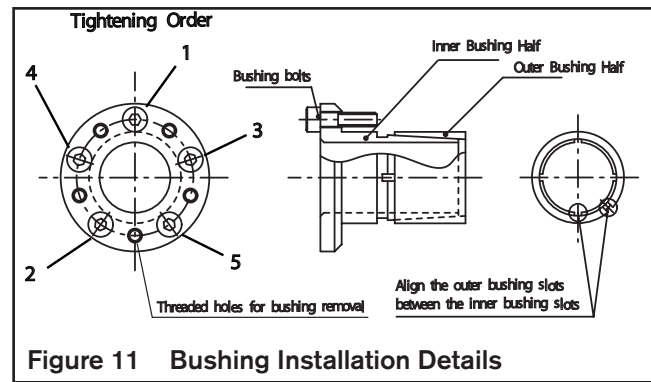

Figure 11 Bushing Installation Details
5. Insert the inner bushing half into the outer bushing half (previously inserted into the pinion) while ensuring that the inner and outer bushing half slots are not aligned as shown in Figure 11. For RPG32 and below you will also have to simultaneously ensure the bushing bolt through holes align with the pinion bolt holes. On RPG40 and larger the bushing bolts thread into the other half of the bushing, not the pinion body, so misalignment is not possible. The threaded holes are for bushing removal.
- NOTE: Ensure that the slots in the two components that make up the bushing are not aligned as shown in Figure 11.
9. Equally tighten the bushing fasteners with 25% of the recommended tightening torque listed in Table 3. Start tightening at the top fastener and alternate back and forth across the face in a star pattern as shown in Figure 11. Repeat this procedure with 50% and then full torque. An additional 1 or 2 repetitions at full torque are recommended to ensure all fasteners have reached their target torque values. Progressive tightening of non-adjacent bushing fasteners is important to prevent any misalignment of components while installing the bushing.